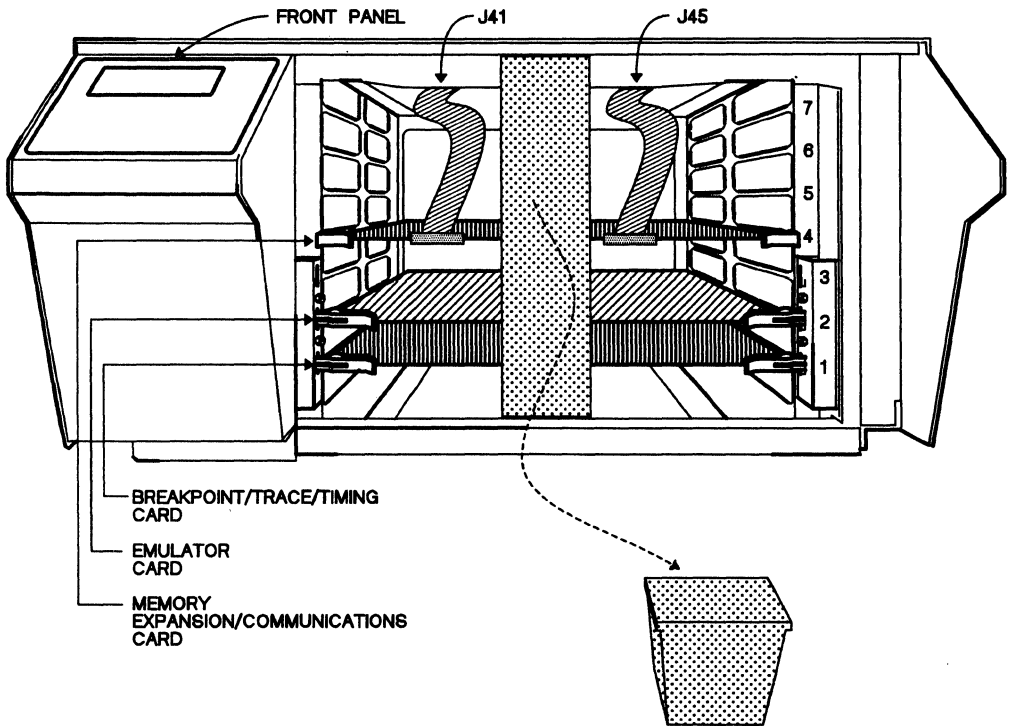

Figure 2-2. XDS/22 Interior
- 4) Discard shipping retainer and CAUTION tag (Figure 2-2).